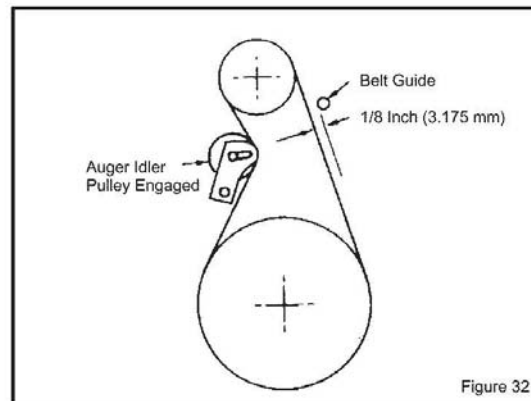

Figure 32
BELT GUIDE ADJUSTMENT (SEE FIGURE 32)
3. Measure the distance between the belt guide and belt. The distance should be 1/8 inch (3.175 mm) for guide. See Figure 32